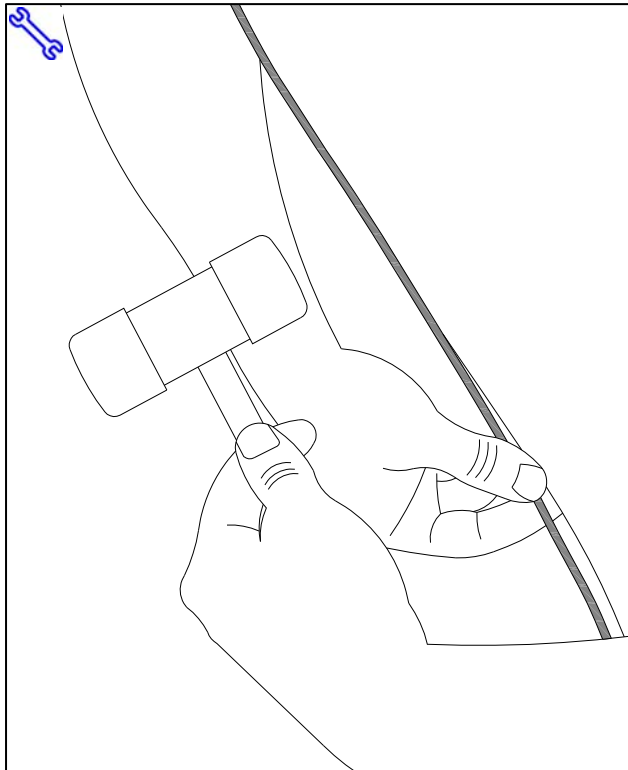

Fig. 1-6
- (f) Continue tapping channel onto door edge moving toward the bottom of door. Use your other hand to steady and guide DEG as you go. (Fig.1-6)